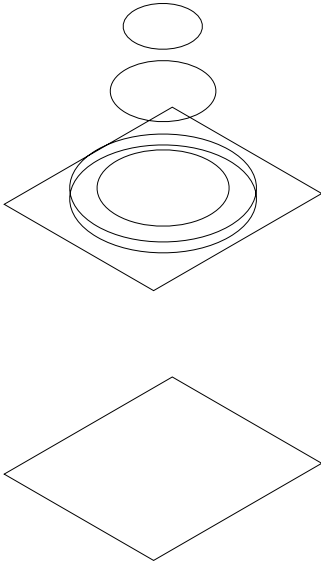
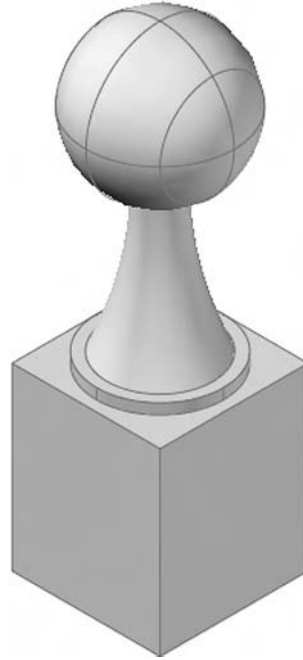

Fig. 13.53 The cross sections for Exercise 10
Fig. 13.54 Exercise 10
10. Construct the cross sections as shown in Fig. 13.53, working to suitable dimensions. From the cross sections construct the lofts shown in Fig. 13.54. The lofts are topped with a sphere constructed using the **Sphere** tool.